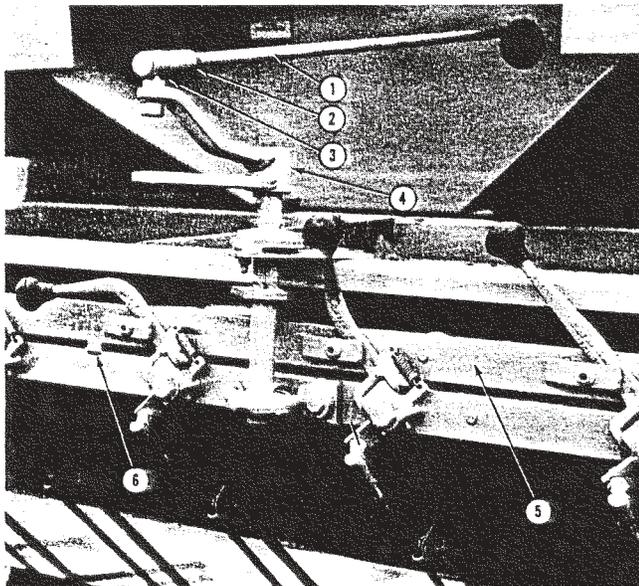

Figure 14
4. Shift gate actuator bar sufficiently to insert a 1/64 inch (.016) spacer between actuator bar and bar spacer block. (Figure 14).